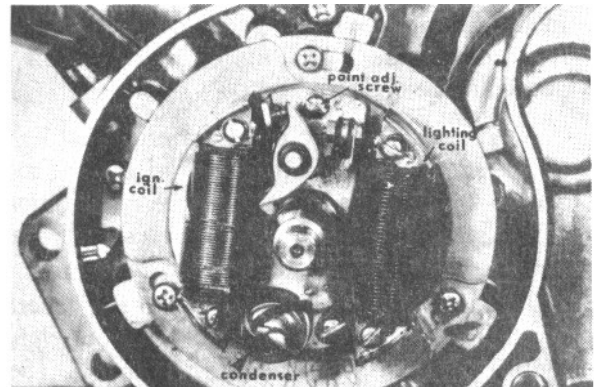

Fig. 111
1. Remove the magneto case cover and locate the timing marks. One mark is engraved on the side of the flywheel and the stationary mark is a cast "pointer" on the magneto case cover. (See Fig. 111)
Condenser: (Fig. 111) The condenser is mounted on the armature plate and its function is to absorb the current generated when the contact breaker points open. It also assists the functioning of the ignition coil. Always check the condenser whenever the contact points are changed in the event that it might need changing too should it not meet the specifications required.
The magneto armature plate also contains a lighting coil. (Fig. 111) The lighting coil provides current to the headlight and taillight. It also provides AC current to the selenium rectifier which converts this current to DC to "trickle" charge the battery. The battery is a 6 volt-4ampere hour battery furnishing current to the brake light and the neutral gear indicator light. The battery also functions as a stabilizer in the electrical circuit. At high speeds, the magneto puts out from 12 to 18 volts. This current passes through the battery which stabilizes it at 6 volts. It is important that the battery is fully charged at all times since a discharged battery will not offer sufficient resistance in the electrical circuit. When battery charge is low, the headlight and taillight bulbs will be burned out instantly when they are turned on.